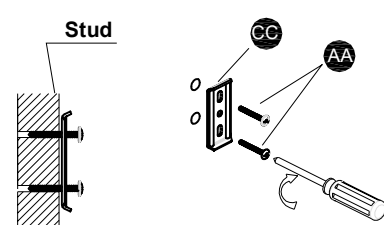

Fig. 3
3. If mounting into stud, fasten mounting bracket **CC** into wall with mounting screws **AA** (Fig. 3).